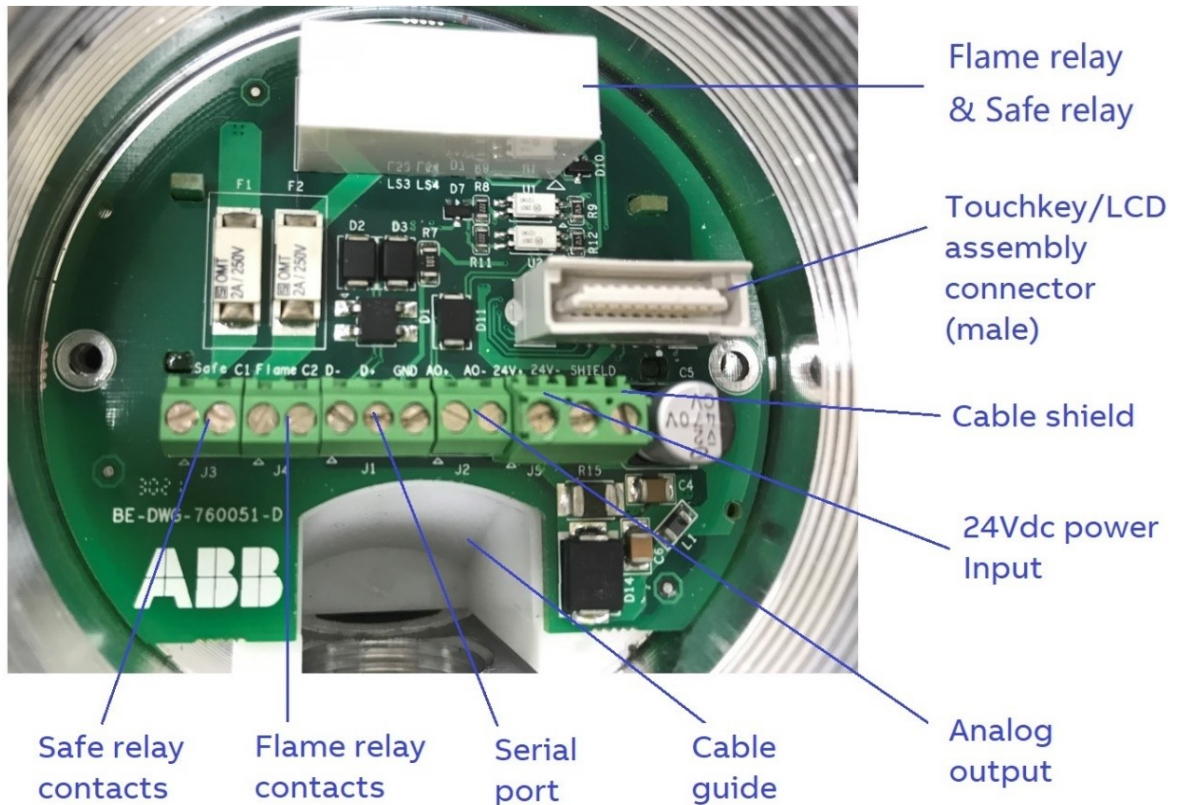

Figure 2.5: Terminal Board of SF910i
- TB, SF910i Terminal Board (also referred to as ‘ATB’. See Figure 2.5).
Figure 2.5 shows the location of connectors on the Terminal Board.